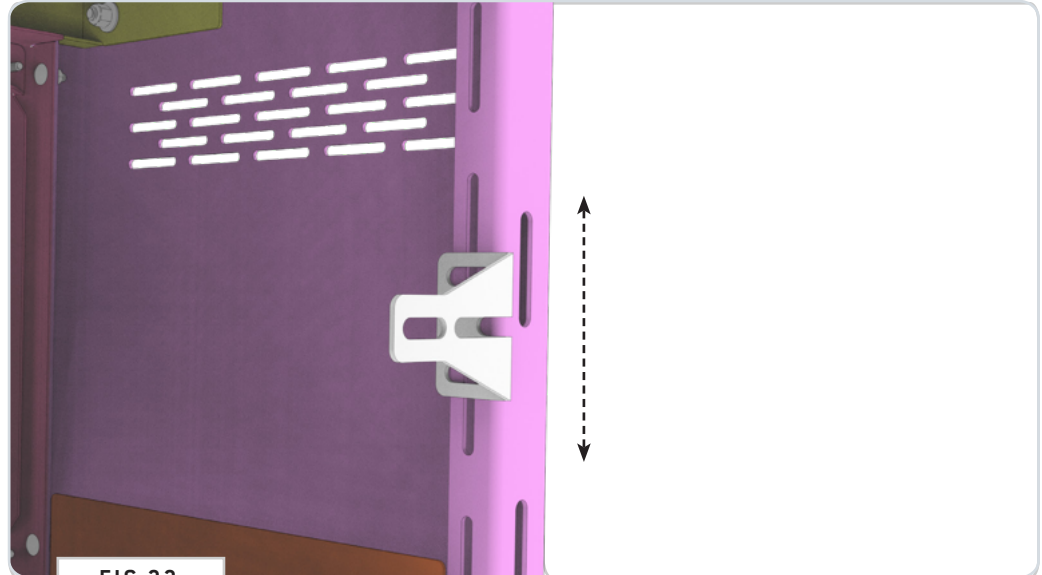
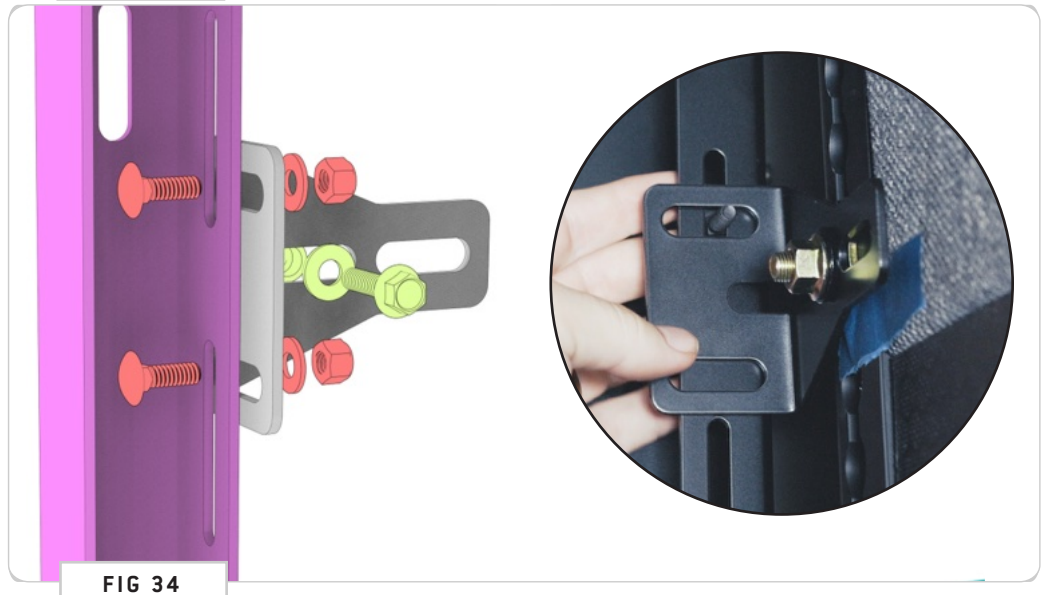

FIG 33
FIG 34
**6.1 Attach Cabinets to Van Walls:** Dry fit the **Mounting Brackets** to the available slots along the **Left and Right Cabinet Ends** for both the **Hinge and Table Side Cabinets** and mark your locations for drilling (**FIG 33**). Drill out your holes with a 25/64" Drill Bit, set your **Rivet Nuts** and secure to the **Cabinet** using **(2) 1/4-20 x 0.75 Square Neck Carriage Bolts, Flat Washers and Nylon Locknuts**. Secure to set **Rivet Nuts** using **1/4-20 x 1 Flanged Hex Head Screws** (**FIG 34**).